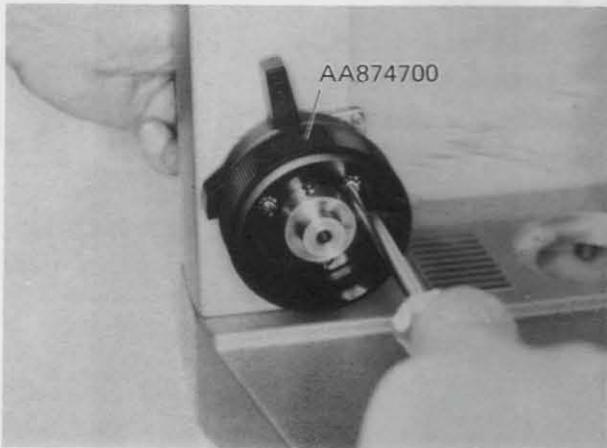

Fig. 4-25
- 4-1-7 Reassemble Coarse adjustment knob AA-874700 with three Screws CUK2.6x5SA and three Washers AA800200. (See Fig. 4-25)